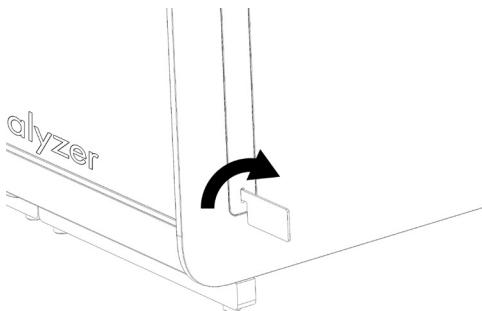

Figure 2. Removing protective covers.
2. Remove the protective covers from the side of the Analytical Module using the Protective Cover Removal Tool delivered with the QIAstat-Dx Analyzer 1.0 (Figure 2).